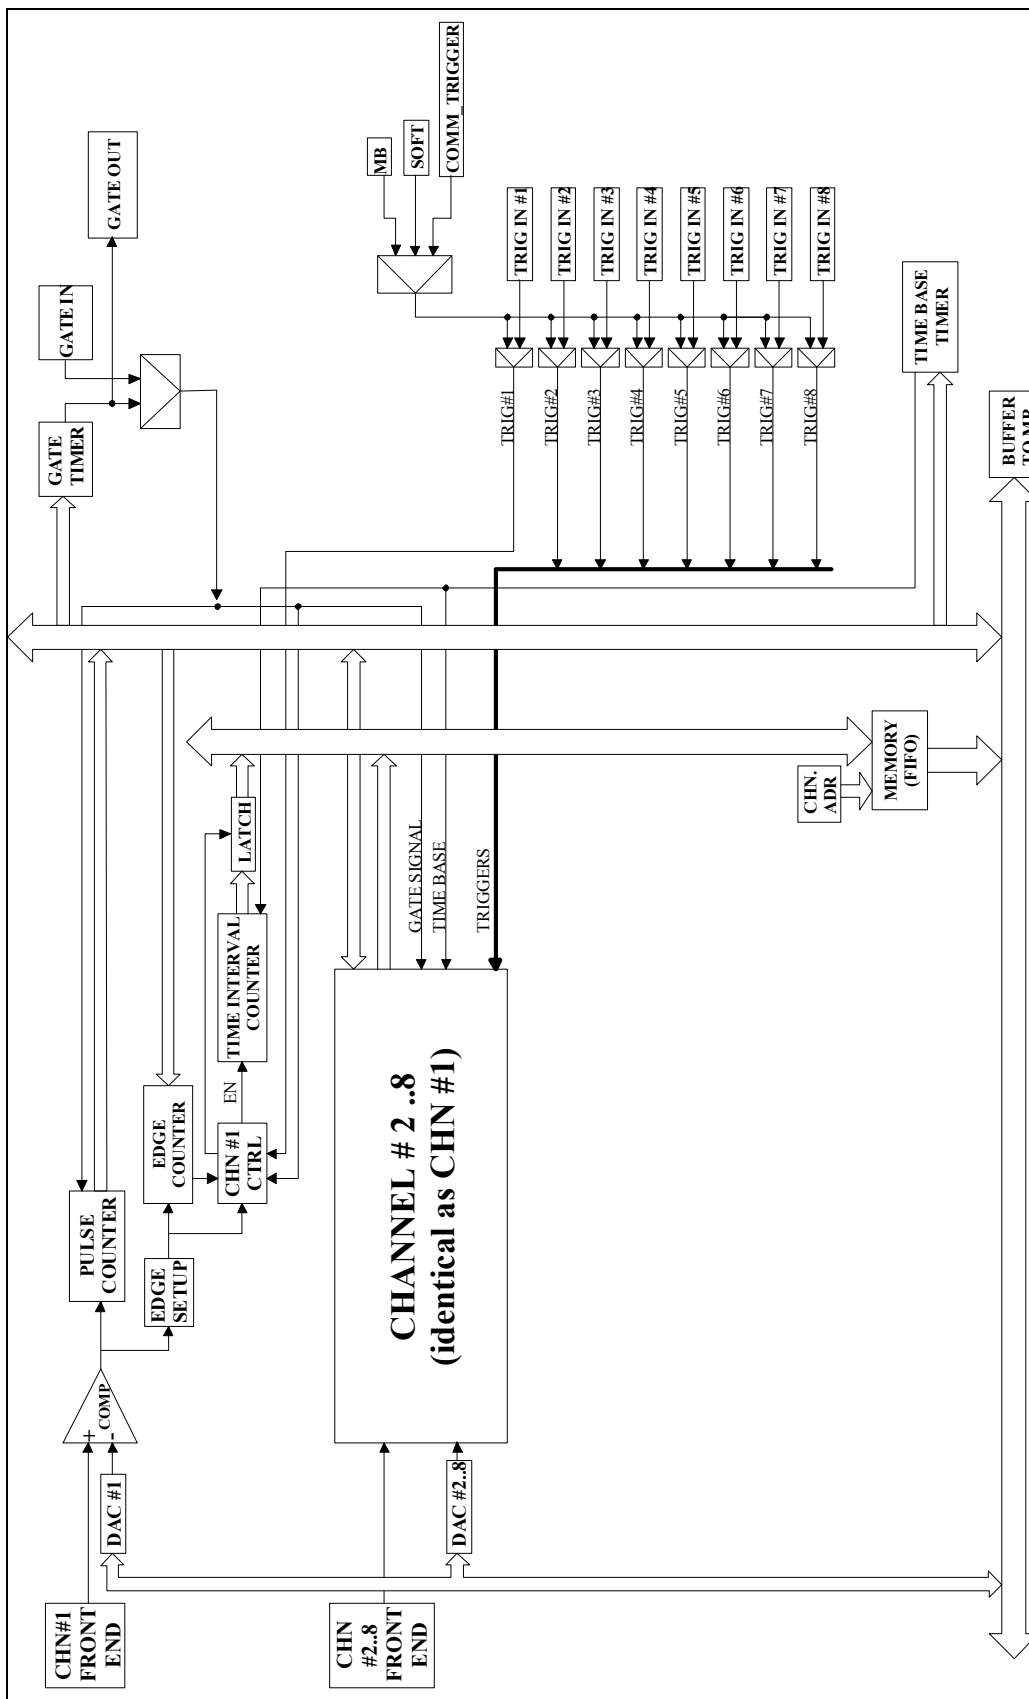

Figure 3 - Block Diagram
- If you want to install a function card in the upper position of a stack without having a function card in the lower position, you need to mount both spacers (Fig. 3, Pos. 11) on each standoff. If the stack is already populated with a function card in the lower position, mount only the bigger spacer (Fig. 2, Pos. 8) onto each standoff.